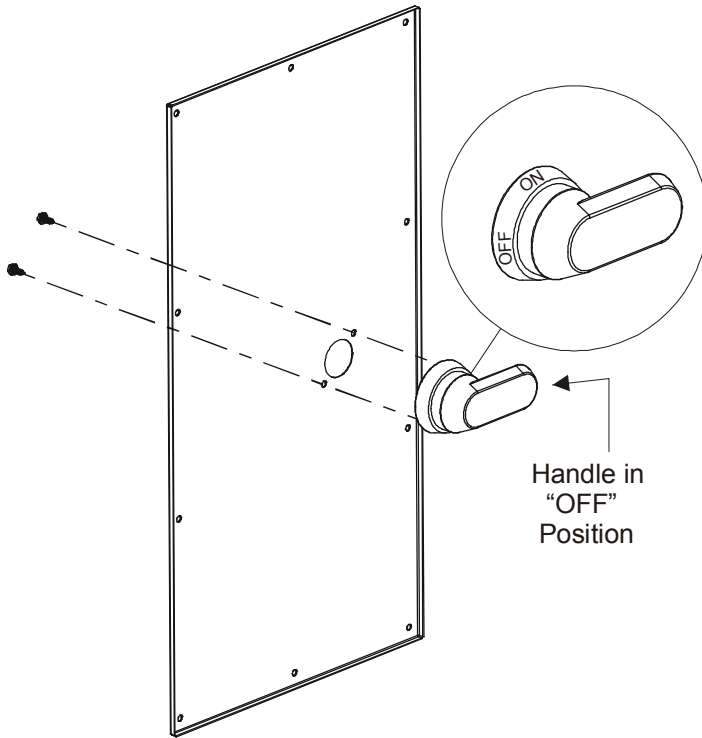

Figure 2
- Attach Handle Assembly to Disconnect Panel with handle oriented as shown in Figure 2. Make sure the handle is in the "OFF" position.